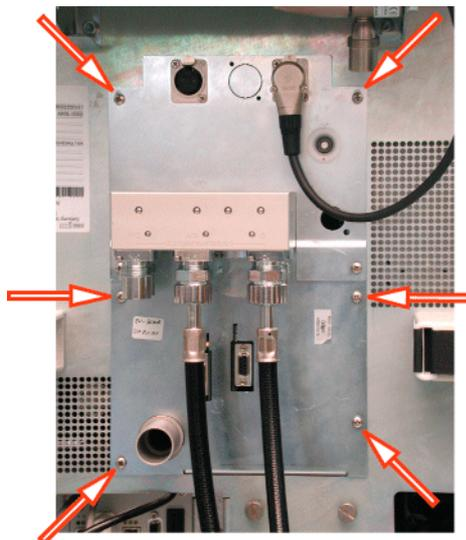

Figure 18 CS module fixing screws
2. Remove the fixing screws from the module (see arrows on Figure 18).